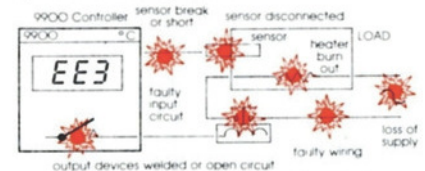

Fig. 3 Typical faults detected by LBA
**7.3** LBA – Loop break alarm **see Fig. 3**